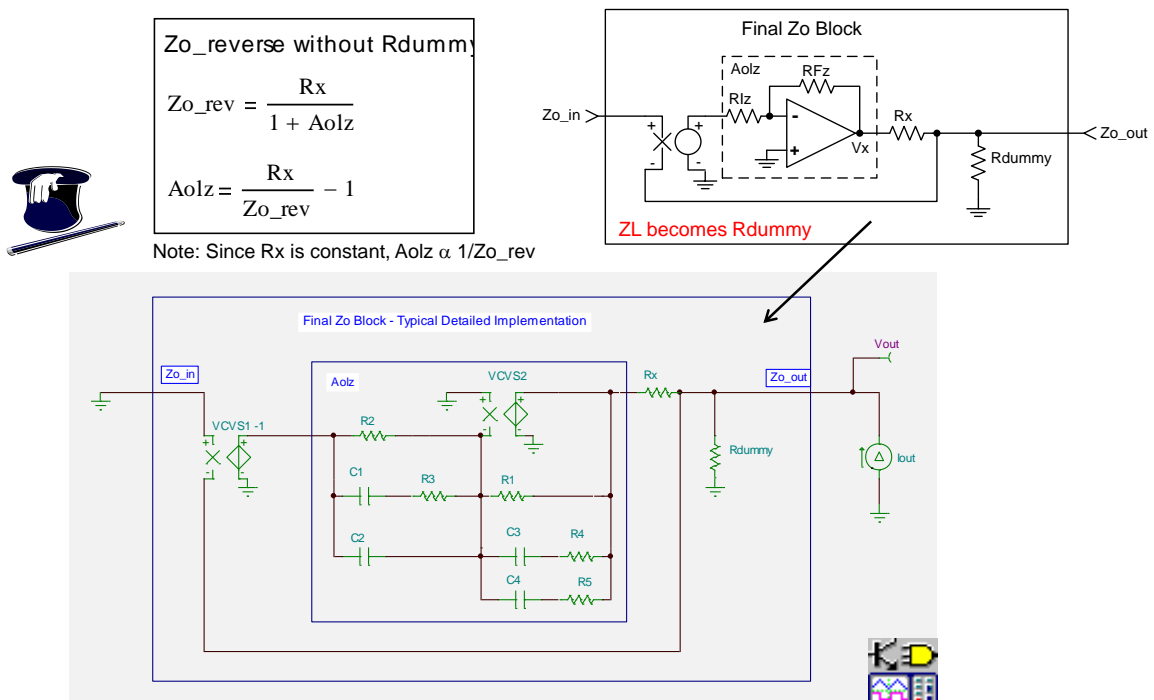

Fig. 11.22: Final Zo Block Architecture
Figure 11.22 shows how to fix our problem of ZL larger than Rx creating errors in our Desired Zo by adding an Rdummy inside of our Zo Block to keep the “effective ZL” at a minimum value regardless of how high in value the actual load external to the Zo Block becomes. Note also that because of the special arrangement and use of VCVS1 (gain =-1) the gain computation for Aolz is simply the respective $(-Z_F/Z_I) * (-1)$ or just Z_F/Z_I where ZF and ZI represent the total impedance in the feedback (ZF) or input (ZI) path of our closed loop op amp arrangement.